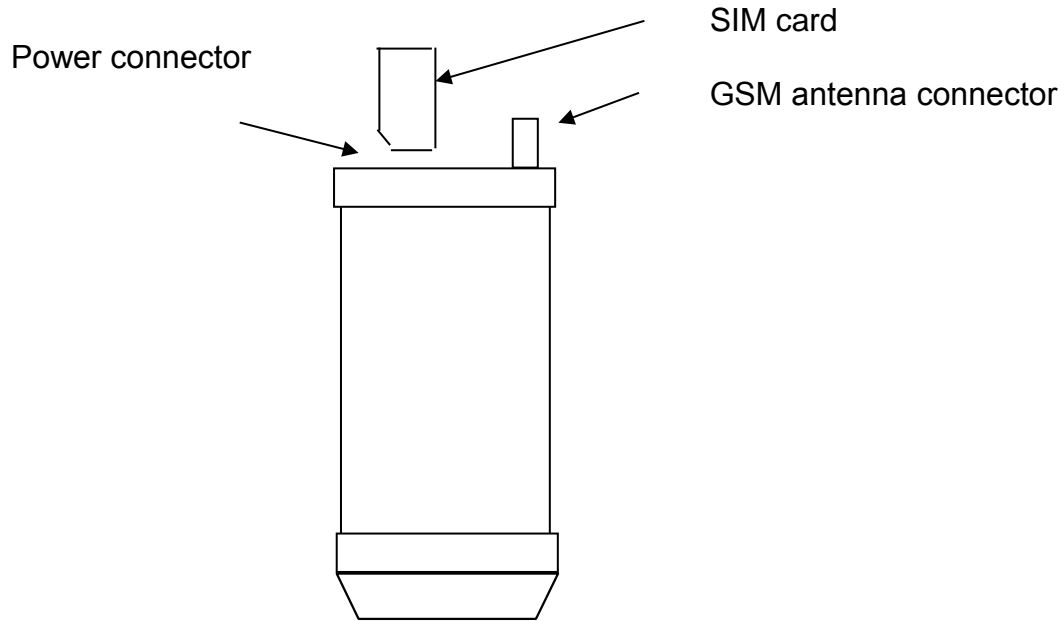

Fig.1 The view from the top of the device.
- Connect to the device the GSM antenna (fig. 1). If it has a radiator, it should be set vertically.
External GSM antenna should be connected to the SMA connector (fig. 1).